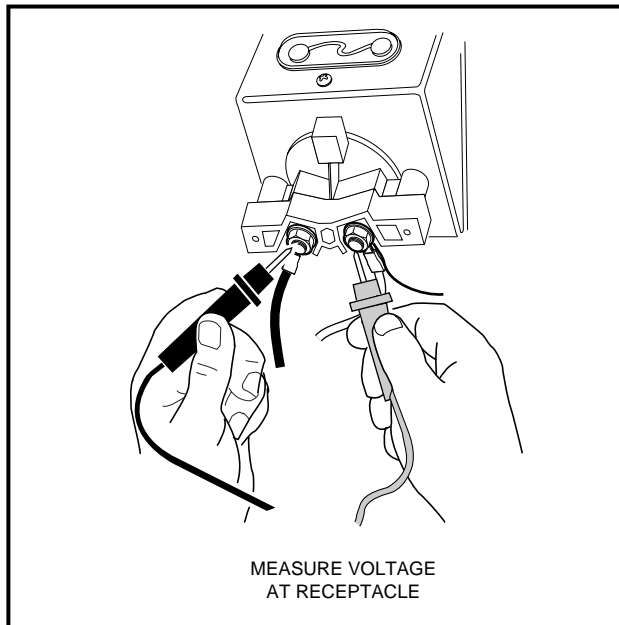

Figure 14-6 Voltage at Receptacle
2. Measure the voltage at the receptacle using a multimeter set to 200 volts DC (**Figure 14-6, Page 14-7**).